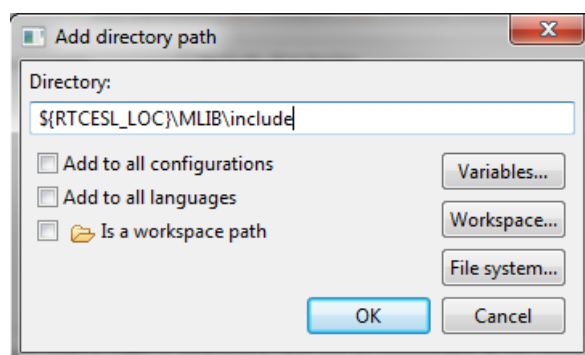

Figure 1-23. Library include path addition
20. Click the Add... button on the right, and a dialog appears. See Figure 1-23.